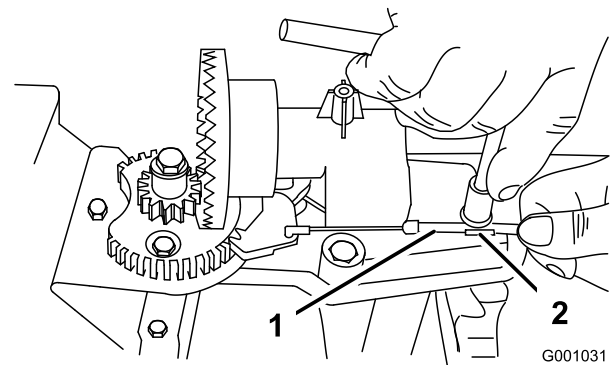
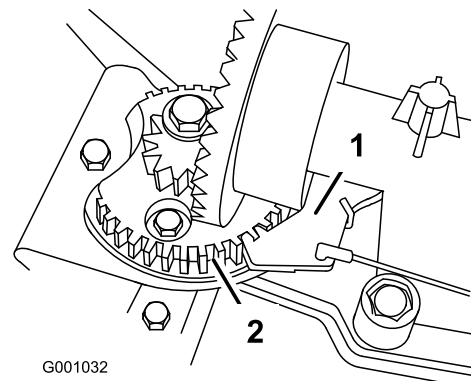

Figure 58
Figure 59
2. Loosen the bolt on the cable clamp (Figure 58).
3. Grasp the cable conduit and move it toward the front of the machine until the discharge chute latch fully engages the gear teeth (Figure 58 and Figure 59).
Note: The latch is spring loaded and will naturally move into the teeth of the gear (Figure 59).